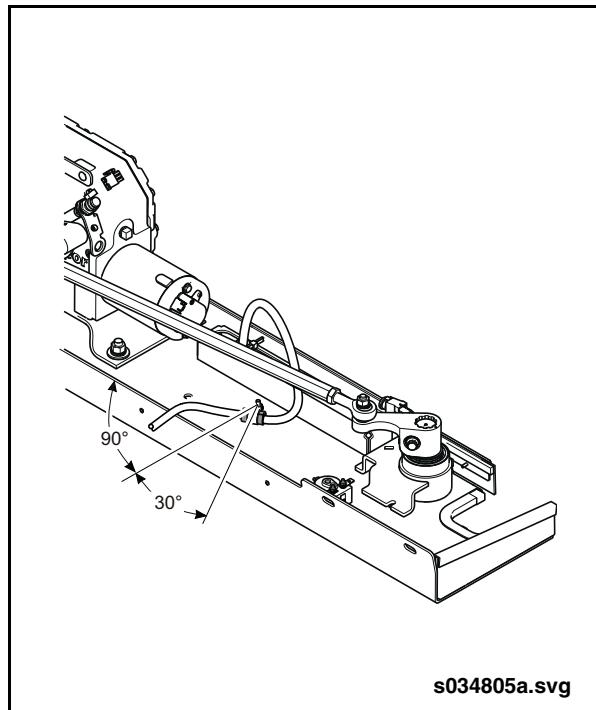

Fig. 16-28: Flexible Conduit Routing
4. Route the flexible conduit on the aft door panel through the P-clamp. Position the P-clamp at approximately 30° to the baseplate door channel and torque the clamp to 13 in-lbs. See "Fig. 16-28: Flexible Conduit Routing" on page 46.